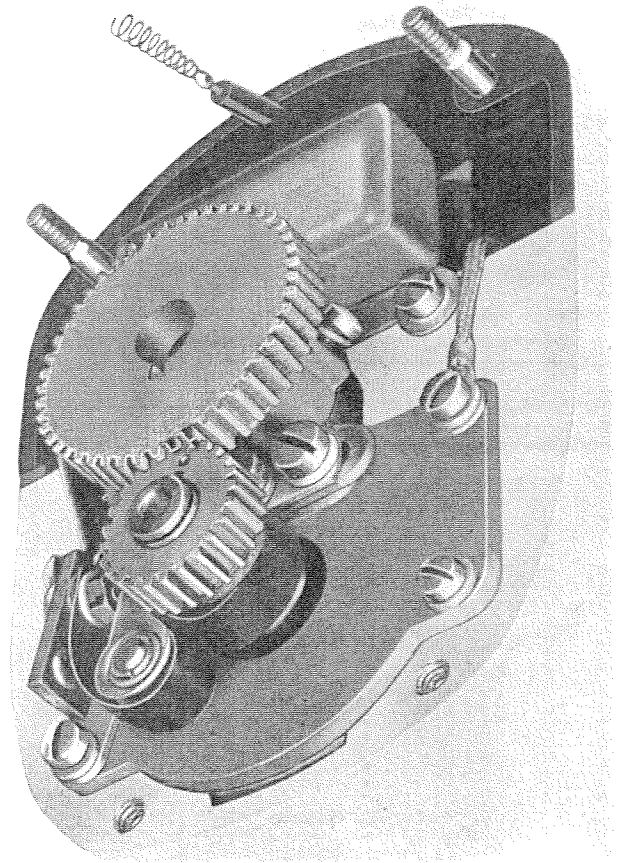
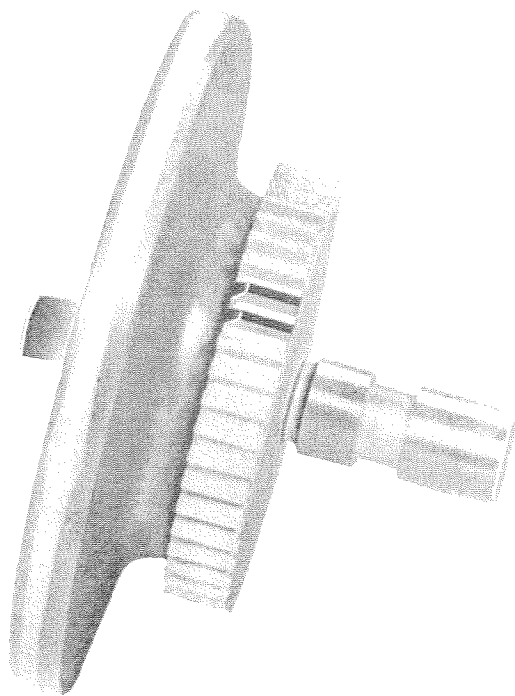

Figure 14. Meshing Distributor Disc Gears
Figure 15. Checking Gear on Distributor Disc Shaft
distributor gear, Figure 14. THE BEVEL ON TWO TEETH ON THE CANVAS BASE BAKELITE DISTRIBUTOR GEAR MUST BE ON THE SIDE OF THE GEAR NEXT TO THE DISTRIBUTOR DISC, Figure 15. If the bevel on the teeth is on the side away from the distributor disc, the gear is not assembled properly on the shaft and should be turned over.
4. Improperly meshed gears. Refer to "Checking Gear Drive." Figure 14.
5. Distributor gear backwards on the distributor shaft. Refer to "Checking Gear on Distributor Shaft." Figure 15.